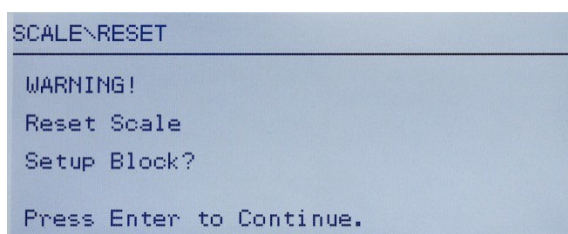

Figure 3-31: Terminal Reset Warning Screen
4. Use the DOWN navigation key to select Reset, then press ENTER. The screen shows a warning message about resetting the Scale setup (Figure 3-31).